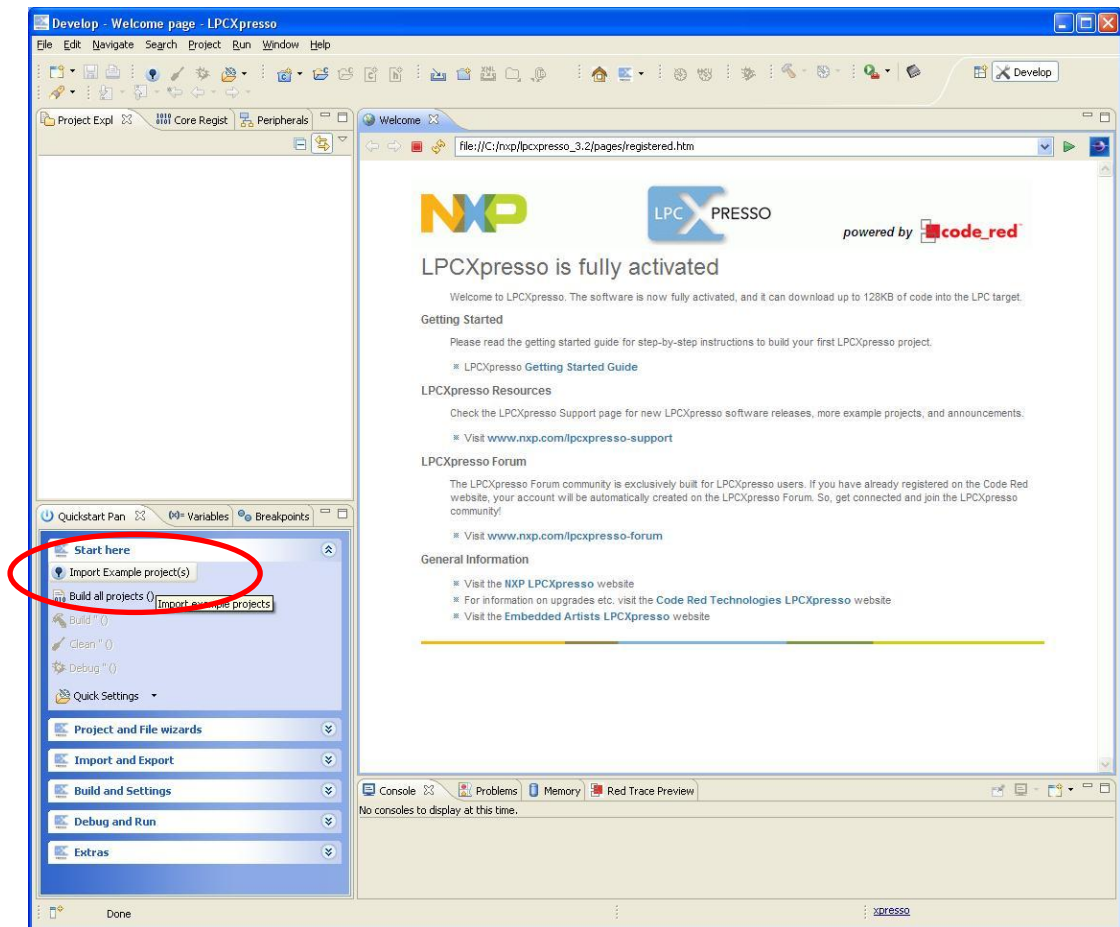

Figure 11 – Import project
3. Press the “Import Example Projects” button from the Quickstart panel, see Figure 11.